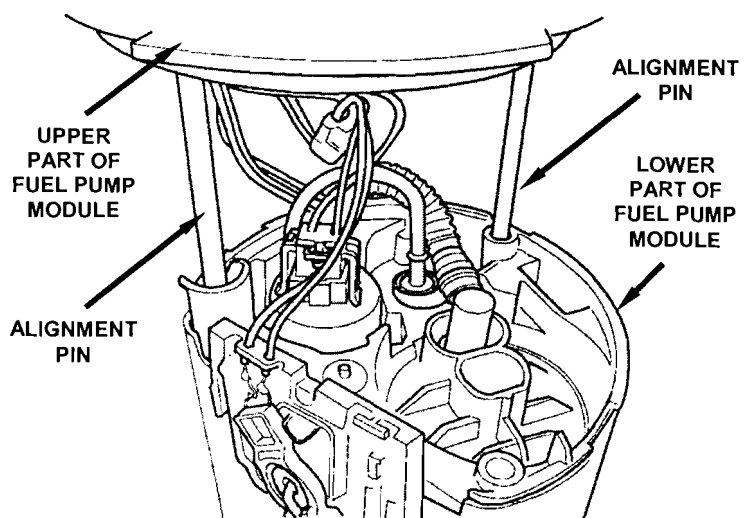

Figure 8
- Remove the internal tank supply fuel line from top of the pump module. Use a small screwdriver to pry the lock tab back and tilt the hose to one side. Pry the lock tab back on other side to release the hose (Figure 8).
**NOTE: The lower part of the fuel pump module is off-set from the upper part when correctly installed into the tank (Figure 8).**